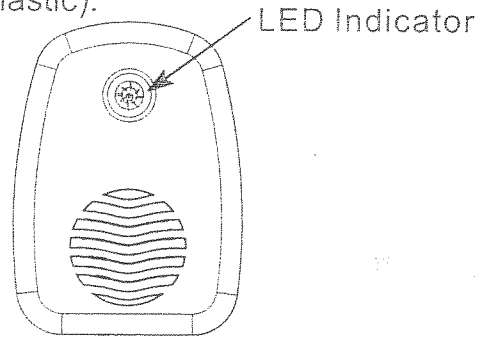

Figure 4
4. After inserting the batteries, the remote sensor LED indicator will light for 4 seconds, and then flash once per 60 seconds thereafter, as shown in **Figure 4** (note that the LED is underneath the plastic).